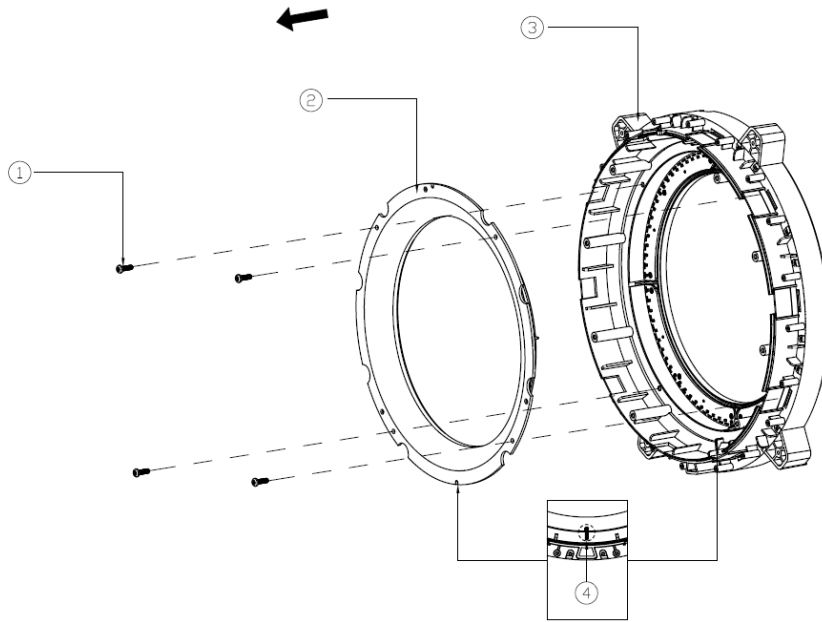

Figure 10-1
(10) Disassemble the Diffusion Ring and the Illumination Board
As shown in Figure 10-1, remove the 4 screws (1), remove the Diffusion Ring (2) (RVM100-DIFSR) and the Main Body Support-Up Package (3). The specification of the screw is the self-tapping screw, ST3*10mm.